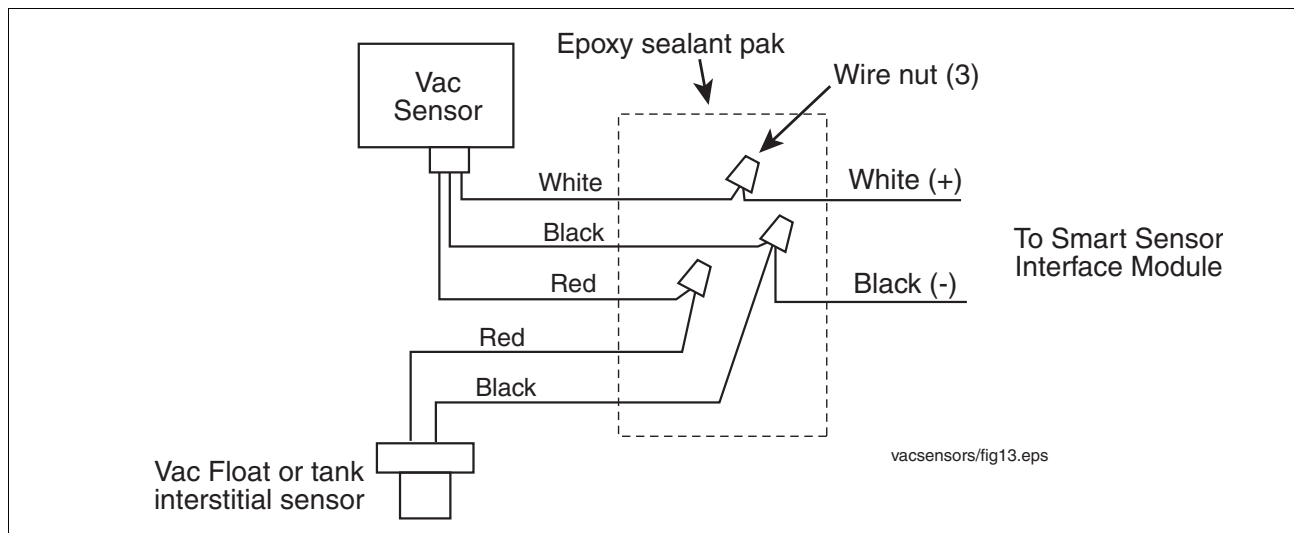

Figure 14. Field wiring connections
4. Strip back the leads of one of the cables from the TLS Console 3/8" (10mm). Strip back the leads of the Vac Sensor/Vac Float pairs 3/8". Using wire nuts from the kits attach the wires as per the diagram in Figure 14. NOTE: the Vac Sensor cable has three wires and the Vac Float cable has two wires.